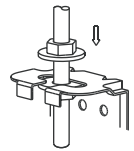

Fig.5-5
- Locate the air conditioner firmly by wrenching the nuts after having adjusted the body's position well. (Refer to Fig.5-5)